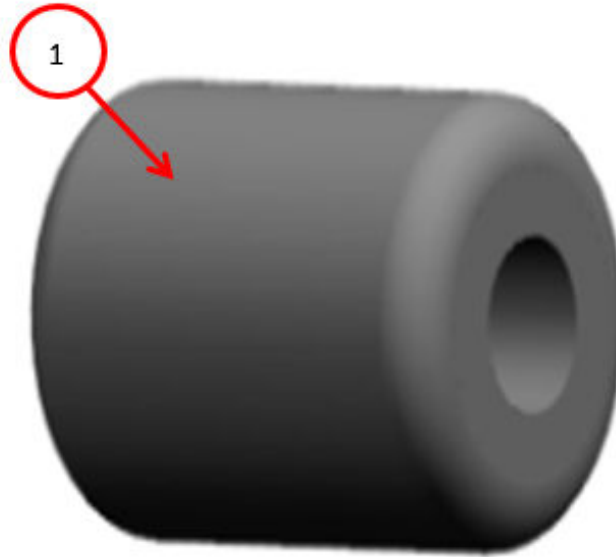
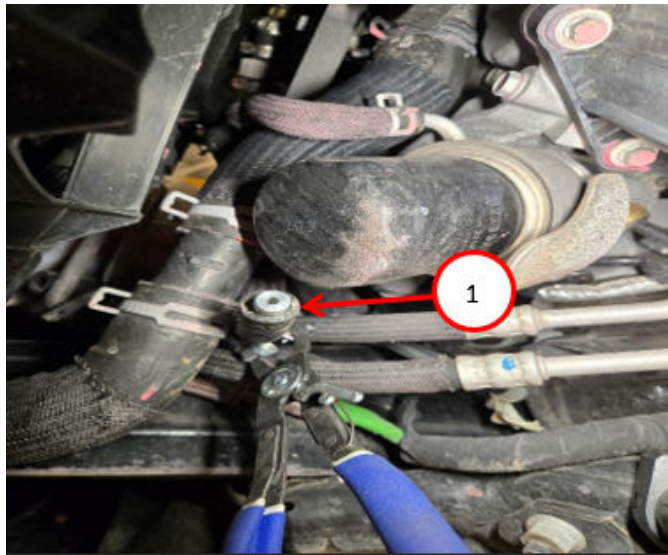

Fig. 3
Fig. 4
6. Insert the coolant hose flow restrictor Fig. 3 into the coolant hose Fig. 4.